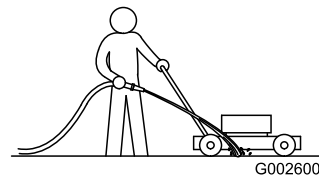

Figure 49
- With the engine running and the blade engaged, spray a stream of water in front of the **right** rear wheel (Figure 49).